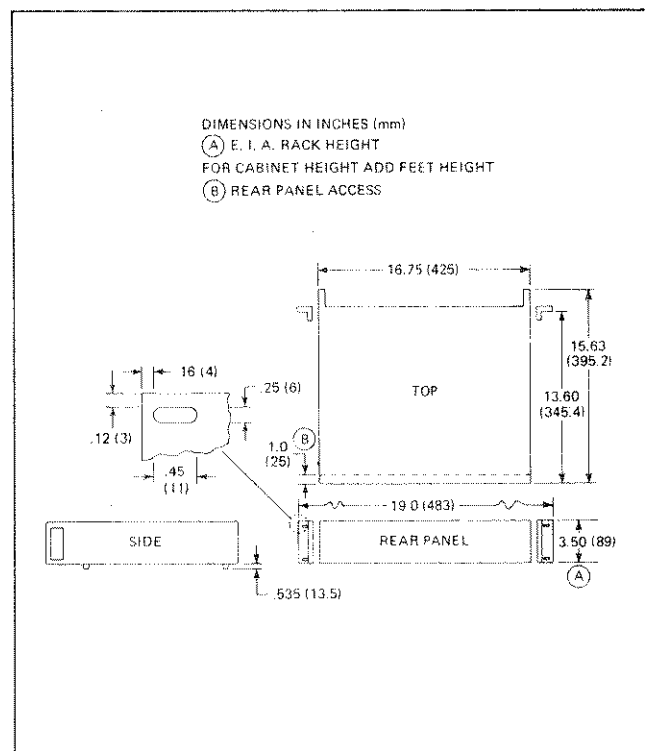

Figure 1.2 - Dimensions
1.33 A dimensional outline of the Model 5900 is shown in figure 1.2.